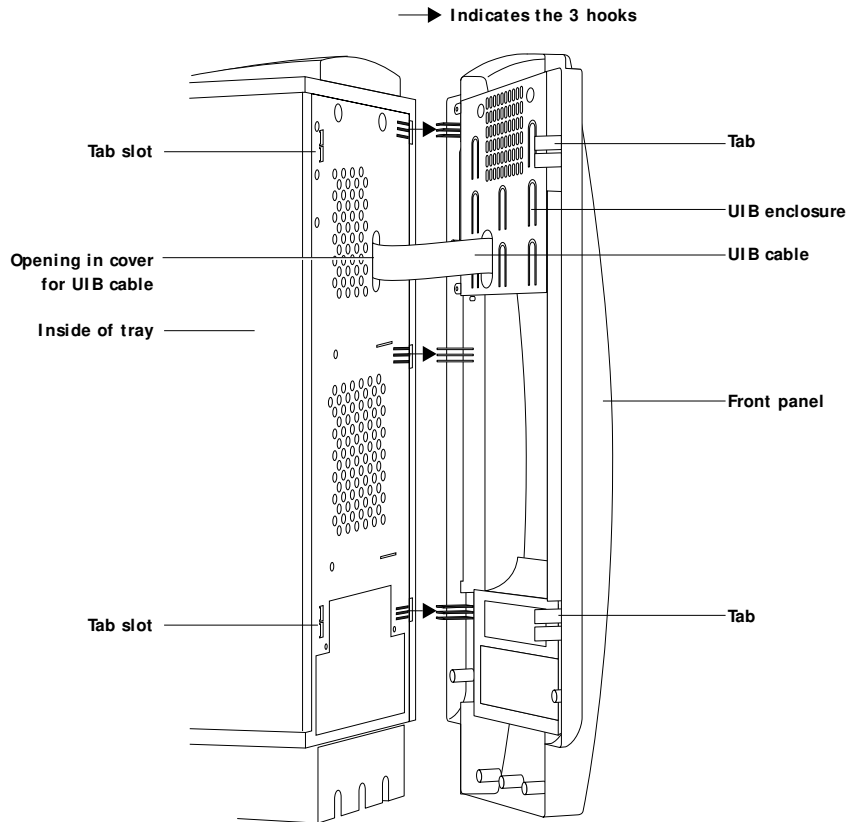

FIGURE 4-5 Removing the front panel
4. **Angle the front panel so that the three hooks on the edge of the front panel line up with the cutouts on the front of the cover (see Figure 4-5).**